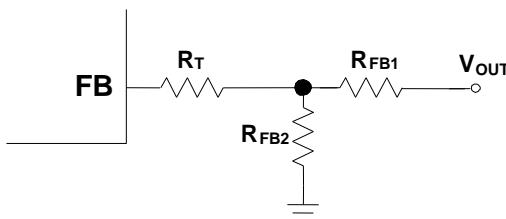

Figure 4: T-Type Feedback Network
The external resistor divider connected to FB sets the output voltage (see Figure 4). The feedback resistor (R_T) also sets the feedback loop bandwidth with the internal compensation capacitor. Choose R_{FB1} to be around 40kΩ when V_{OUT} ≥ 1V. R_{FB2} can then be calculated with Equation (1):
The T-type network is highly recommended when V_{OUT} is low (see Figure 4).